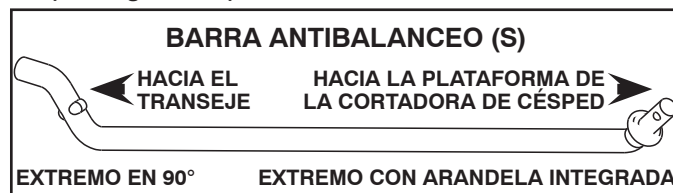

Fig. 27
5. SI LA TIENE, INSTALE LA BARRA ANTIBALANCEO (S) (Vea Fig. 27 - 29)